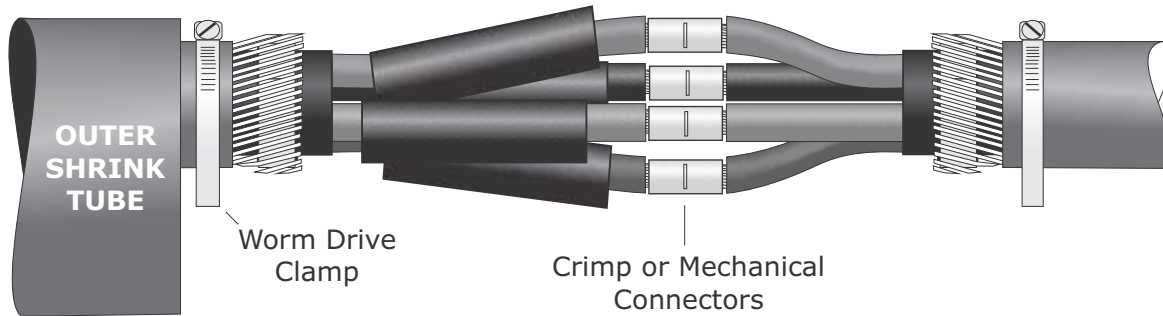

Fig 4
4. Before proceeding, ensure the outer shrink tube is over the outer sheath and the connector insulation tubes are positioned down the longer of the prepared Cores as shown in Fig 4 (or staggered if user wishes).